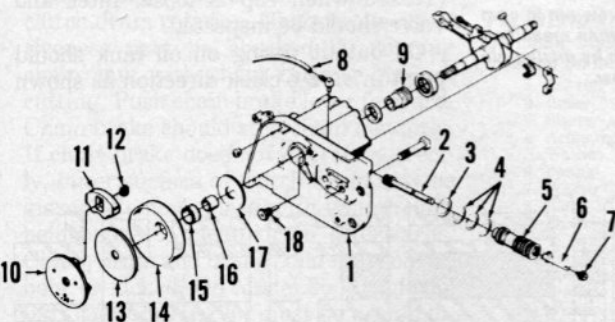

Fig. HL260—Exploded view of oil pump used on all 350 and early 360 models and clutch used on later 350 and early 360 models.
All 350 series models and early 360 series models are equipped with oil pump shown in Fig. HL260. Crankcase (1) may be identified by number 12061-A stamped in crankcase. Oil output is adjusted by turning adjusting lever shown in Fig. HL264. Oil pump assembly may
be withdrawn after unscrewing cam screw (P—Fig. HL265). Measure depth of cam screw pin as shown in Fig. HL266. Depth should be 0.553-0.557 inches and may be adjusted by driving pin in or out of cam screw. Incorrect pin depth will affect engagement with slot in plunger. Measure depth of plug (P—Fig. HL267) in pump bore. Plug should be 2.011-2.016 inches from end of pump as shown in Fig. HL267. Lubricate pump components prior to assembly. Align cam groove in plunger with slot in pump body using tool no. 24868. Carefully install pump assembly in housing to prevent plunger from moving out of alignment with pump body slot. Screw cam screw (P—Fig. HL265) into housing being sure cam screw pin properly engages slot in pump body (5—Fig. HL260) and cam groove in plunger (2). Do not tighten cam screw with a wrench until final turns are reached.